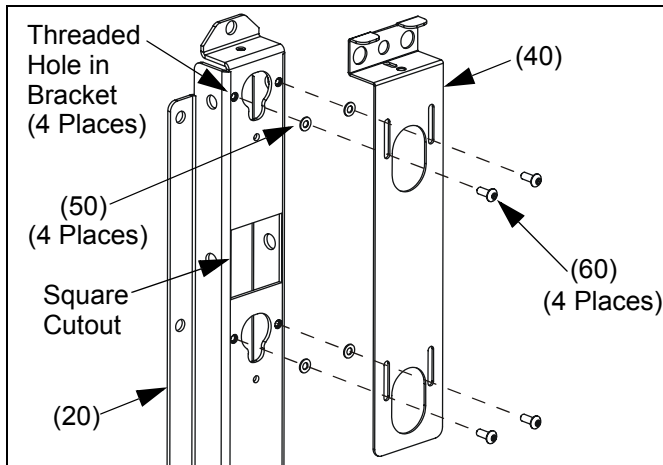

Figure 5: Latch Assembly
1. Using key (160), loosely install screws (60) through latch (40) and spacers (50) into threaded holes in bracket (20) (See Figure 5). Ensure latch (40) is installed on the end of bracket (20) with the square cutout.